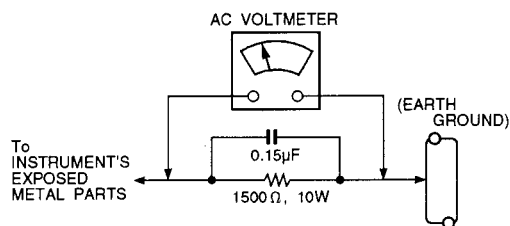

Fig. 1
- 5-2 Connect a 1500 ohm, 10 watt resistor, paralleled by a 0.15 μ F capacitor between each exposed metallic part and a good earth ground (as shown in Fig.1).